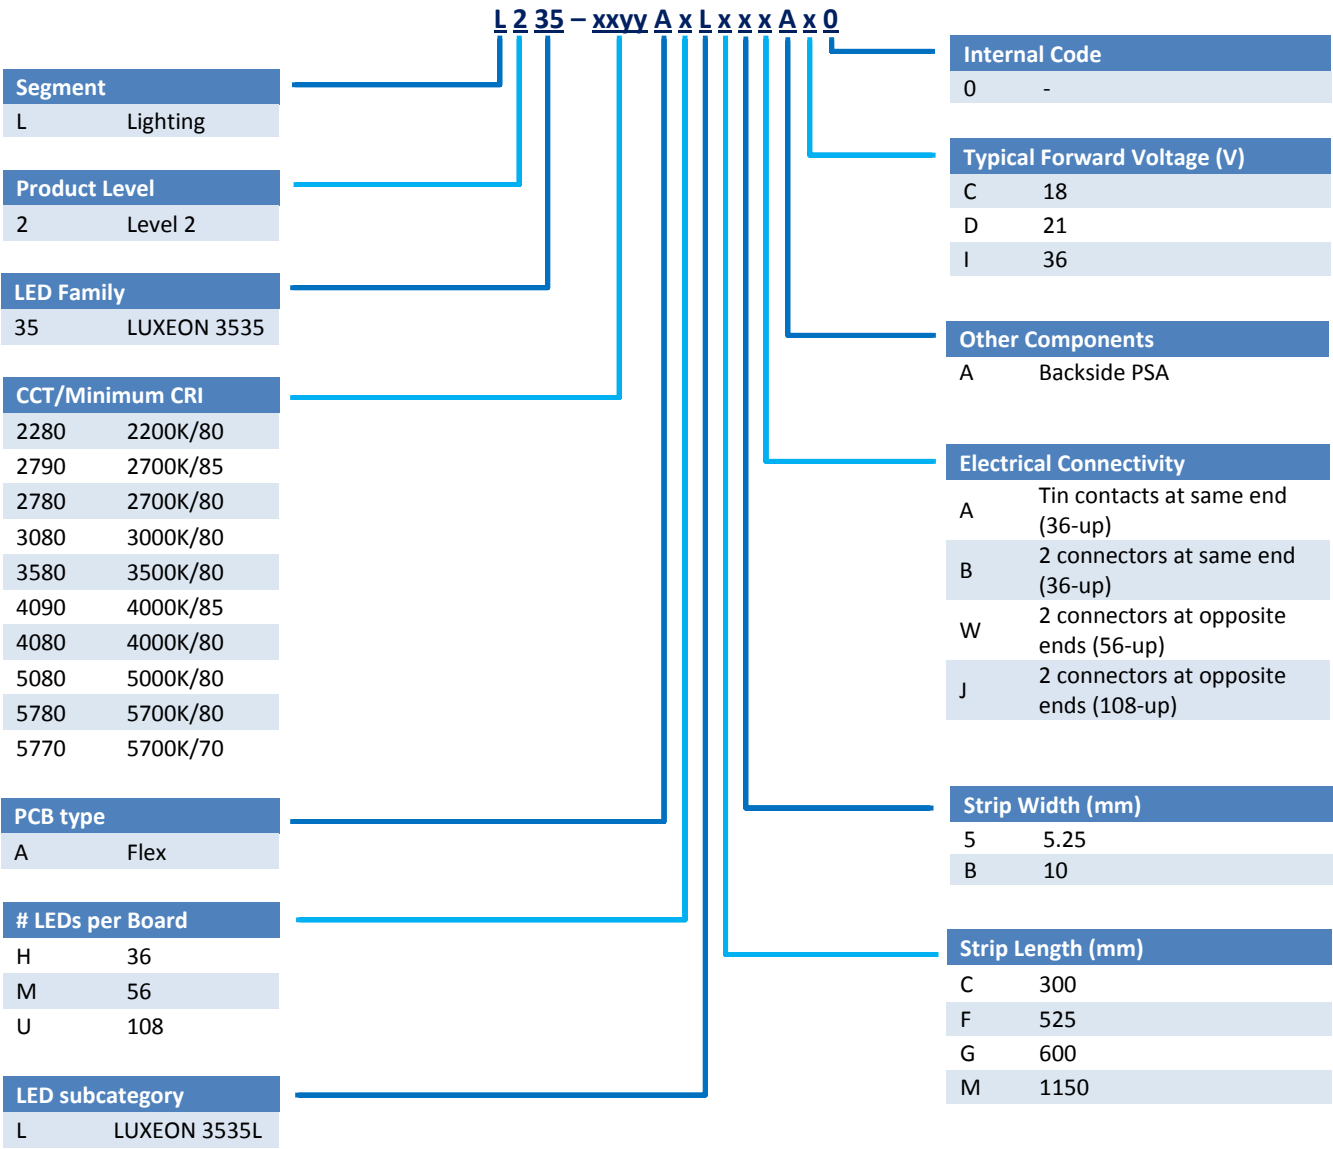

Figure 1.
1. "x" and "y" are part number attributes as described in the Product Nomenclature section (Figure 1).
1. "xyyy" and "z" are part number attributes as described in the Product Nomenclature section (Figure 1).